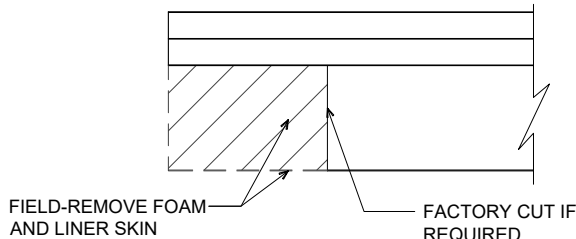
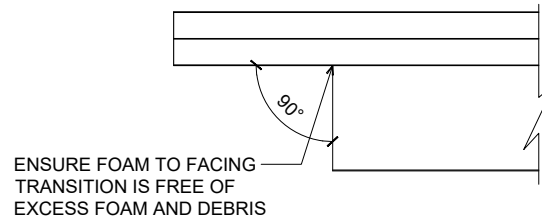

FIGURE 8
FIGURE 8A
- 13.7 ALL WEATHER INSULATED PANELS THAT INCORPORATE END LAPS WILL ARRIVE AT THE JOB SITE WITH THE FOAM AND LINER FACE IN PLACE. THE LINER FACE OF THE UPPER COURSE PANEL WILL HAVE A FACTORY SAW CUT 3" TO 6" FROM THE END OF THE PANEL (SEE FIGURE 8). REMOVE THE METAL AND FOAM AT THE END OF THE PANEL. CAREFULLY REMOVE ANY FOAM THAT REMAINS ON THE METAL SKIN TO ENSURE A POSITIVE AIR AND WATER INFILTRATION SEAL. ENSURE PANEL TO EXTERIOR FACING TRANSITION IS FREE OF EXCESS FOAM AND DEBRIS (SEE FIGURE 8A) TO ALLOW PANEL ENDS TO JOIN TOGETHER TIGHTLY FOR FOAM-TO-FOAM CONTACT.